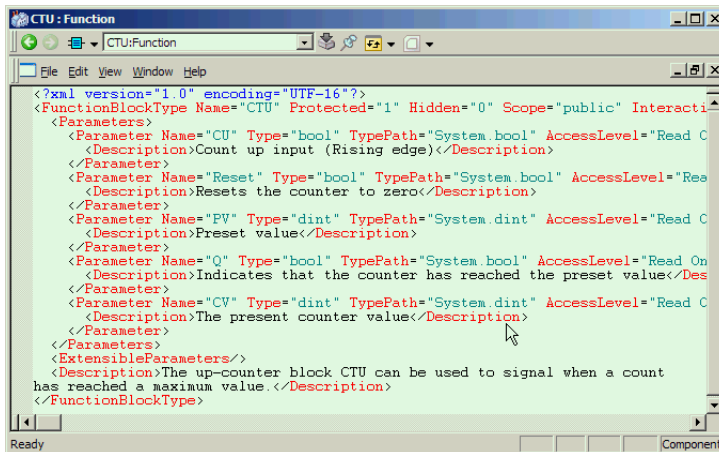

Figure 17. XML Type Description of a CTU Function Block
- CB function blocks, refer to Figure 17